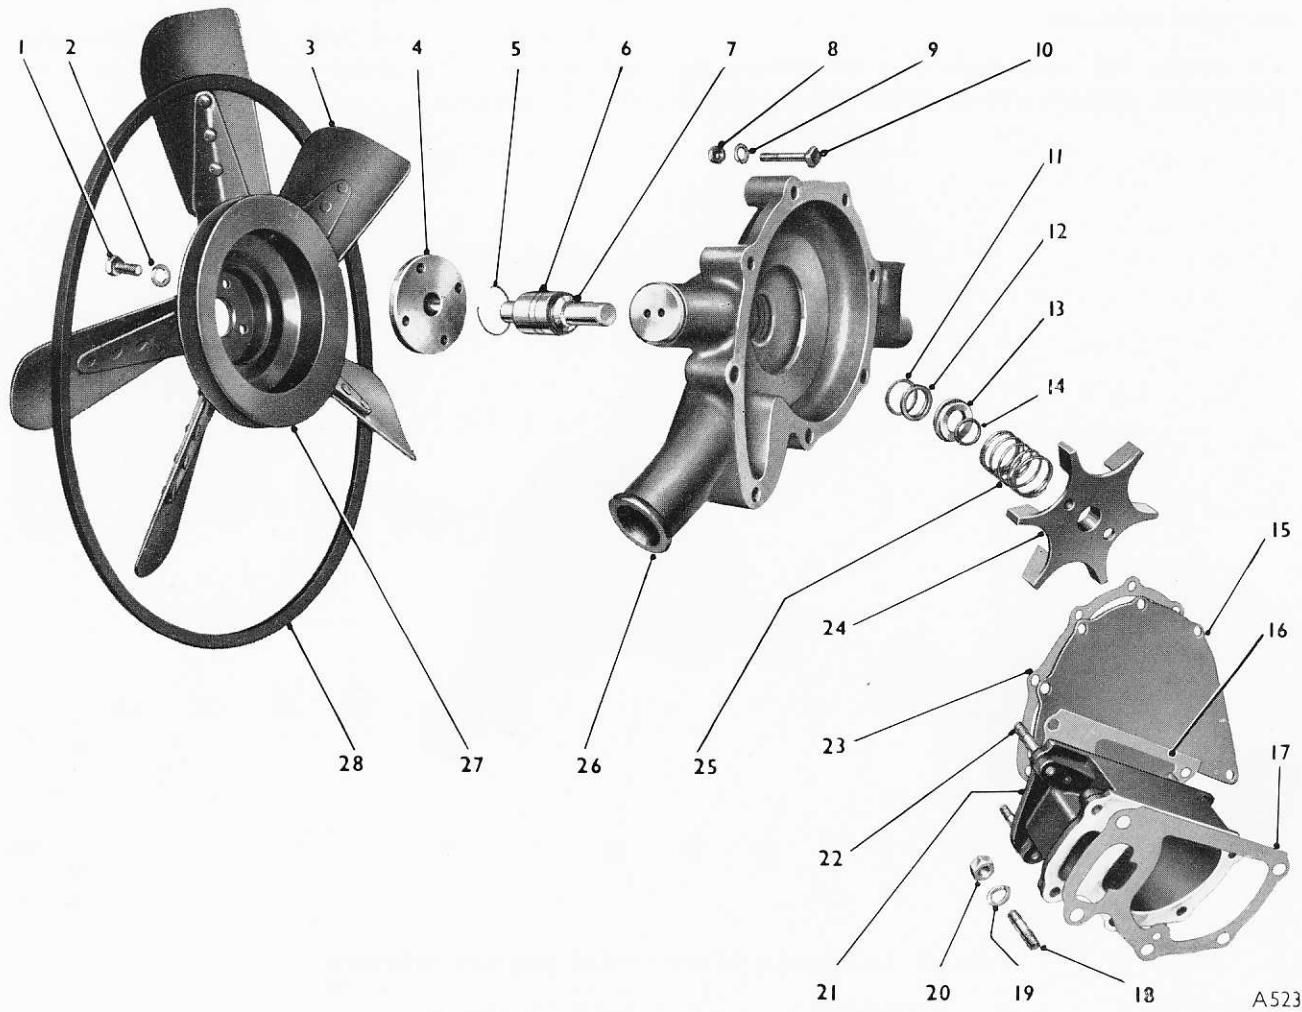

Fig. L10 Exploded view S1 cars—coolant pump without refrigeration
**S1 cars—without refrigeration** (see Figs. L10 and L11):